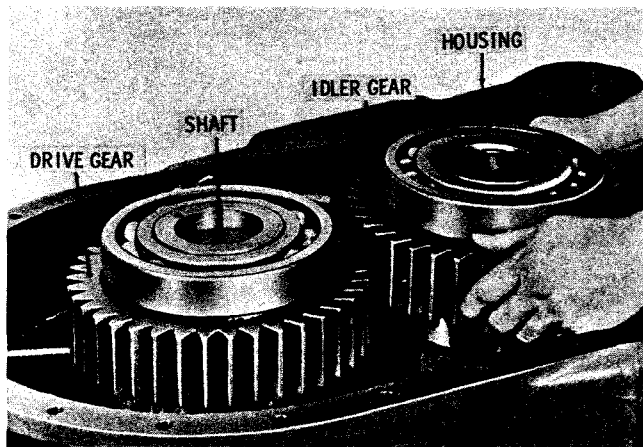

Fig. 7-117. Installing transfer idler gear assembly
(7) Install the drive gear assembly onto the output shaft. Install the idler gear assembly into the housing (fig. 7-117).